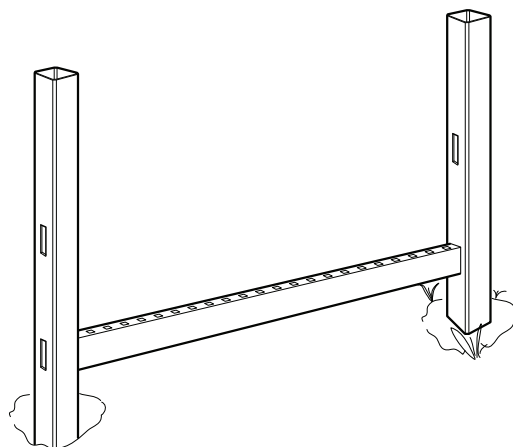

fig. 5
STEP 3 – Install the second post into the ground and temporarily secure into place. Set the bottom rail into the second post and level (fig. 5). (You will secure the second post with concrete in Step 5).